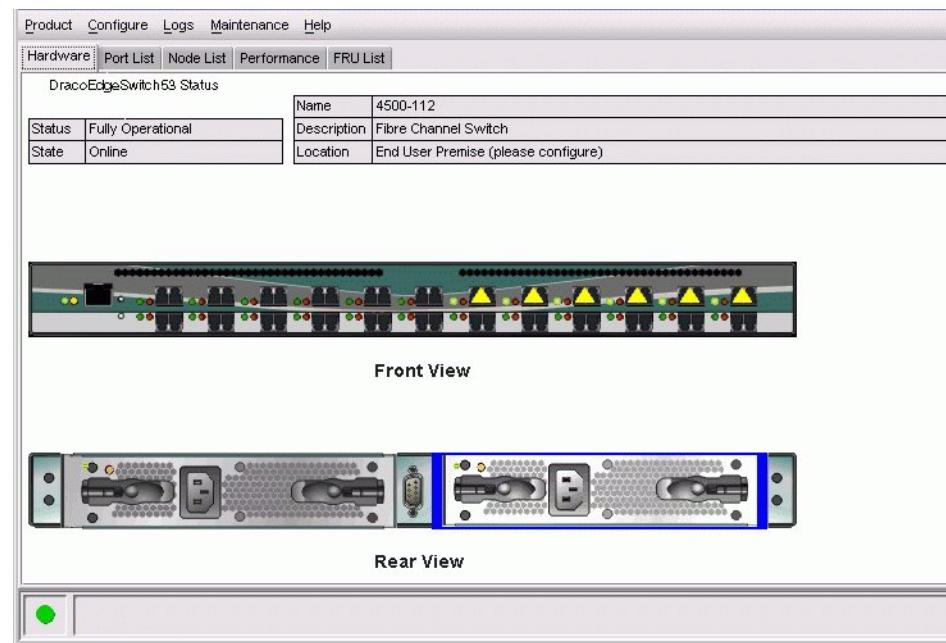

Figure 15: Switch Hardware View page
- Select the **Element Manager** option from the pop-up menu. When the Element Manager application opens, the last view (tab) accessed by a user opens by default. The example in Figure 15 shows the **Hardware View**.